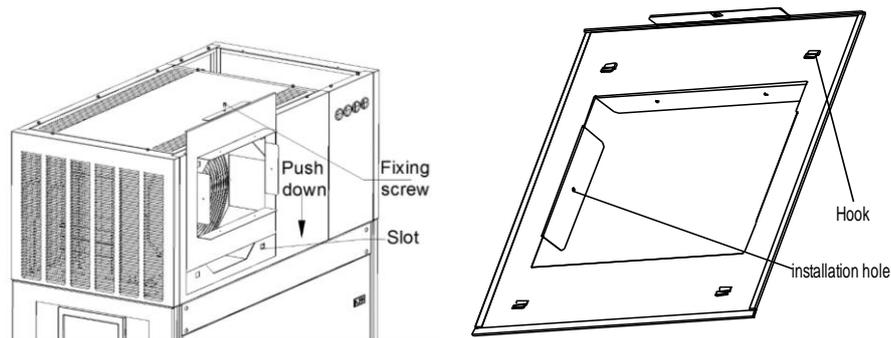

Figure 3-19 Installing air channel parts
2. Push the air channel parts into the top frame body from top to bottom and use M6X16 screws (4 PCS) to fix the parts on the top frame body as shown in Figure 3-19.